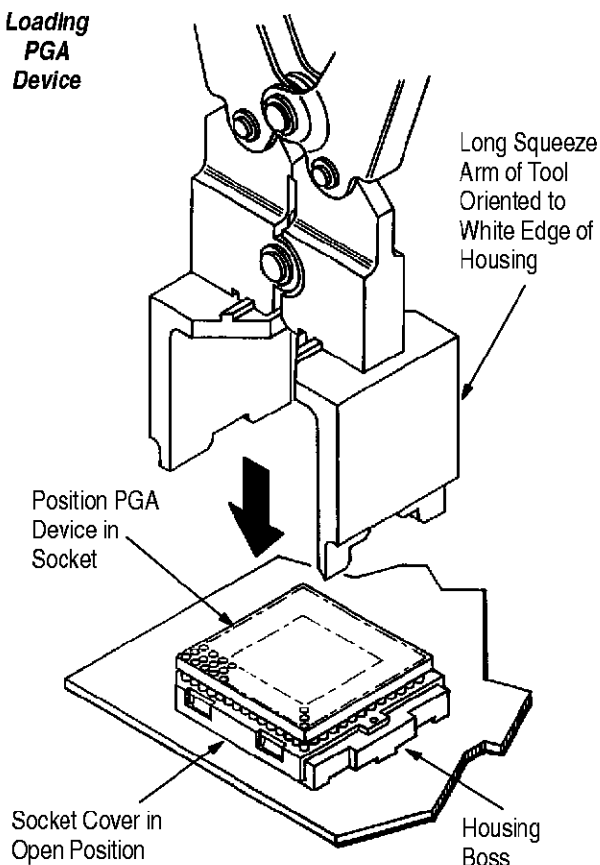

Figure 3
1. Position device in socket as shown in Figure 3. An empty socket is designed to always be in the open position.